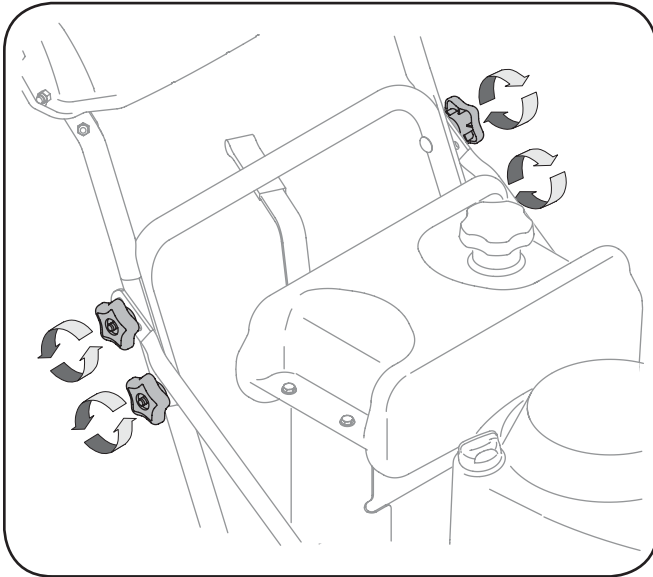

Figure 3
2. Loosen the four star knobs by turning the knobs counterclockwise five full rotations. See Fig. 3.